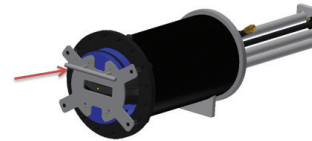

Figure 57
5.0.16) The lifting handle may now be used to lift and progress the cartridge further into the insertion housing by inserting the two prongs of the handle through the 5/8" holes of the plate and into the 5/8" holes in gate housing (see Figure 57).